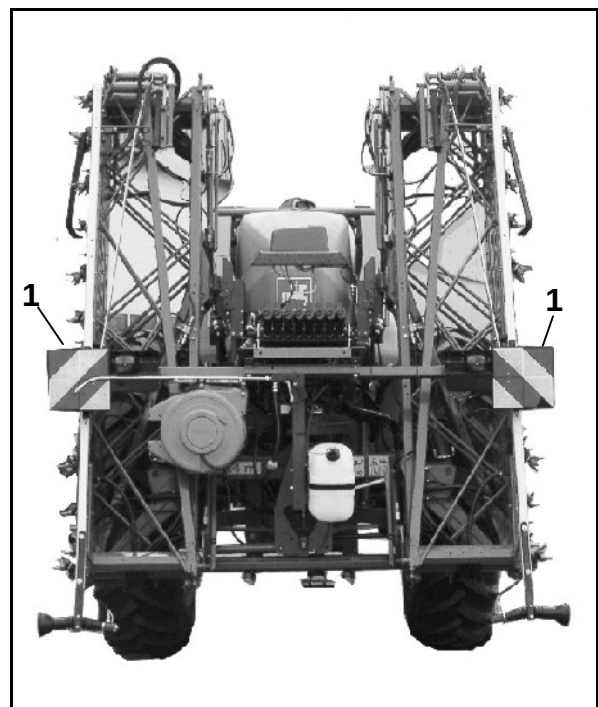

Fig. 72
- Traffic lights to the rear (Fig. 72/ 1), Order No.: 916 253